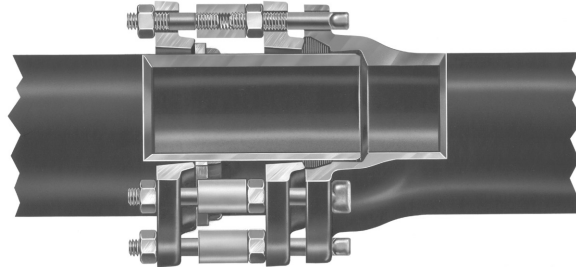

Figure 6
7. Once the Earthquake pipe location has been reached, remove the hydraulic rams and split restraining gland. After removal of the restraining gland ensure the pipe coating has not been damaged during extension. If coating damage has occurred during extension, repair coating per the AMERICAN coating repair procedure. The completed joint pictured in Figure 6 is in the intermediate position* as previously described, with the first assembly stripe of the opposite Earthquake joint fully inserted and flush with the bell face, and the second stripe is fully exposed.